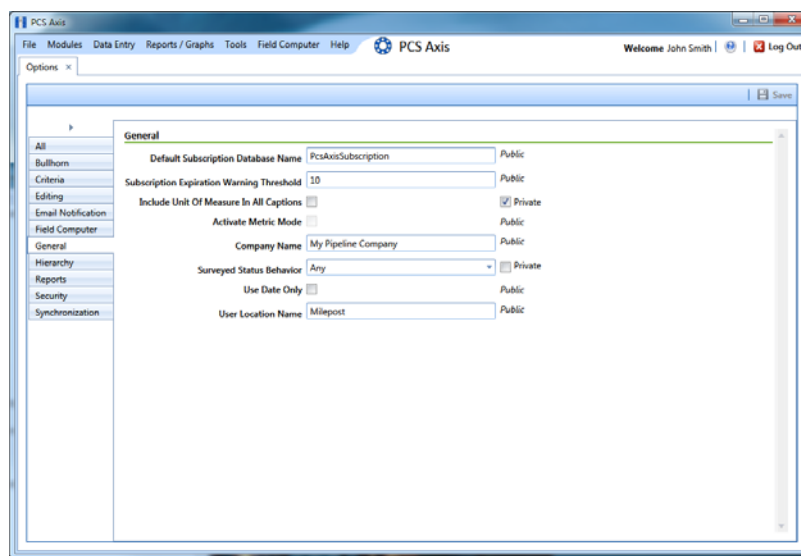

Figure 2-3. Company Name and User Location Name
- 1 Click **Tools > Options > General** to open the *General* options page (Figure 2-3).